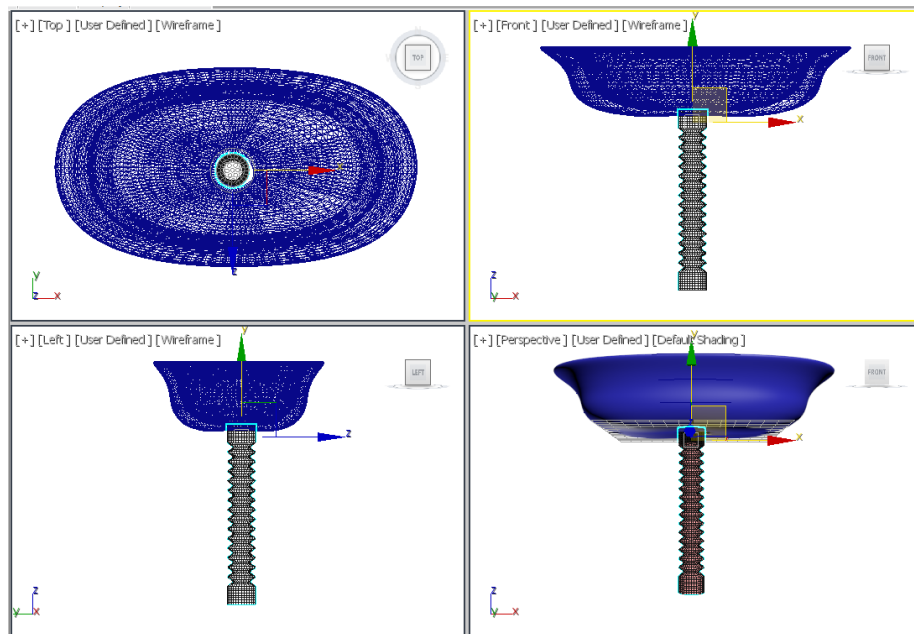

Figure 15-69 A duct created and aligned in viewports
12. Modify the name of the hose to *duct* and align it in viewports, as shown in Figure 15-69.